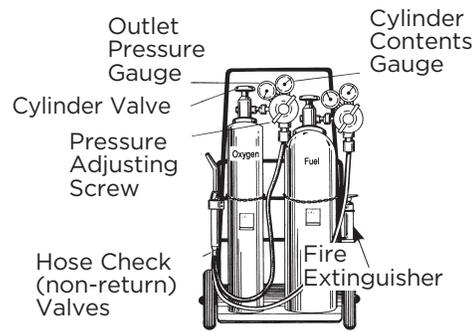

Figure 41-15: Buggy Equipped with a Fire Extinguisher
- Use oxygen and acetylene cylinders in a proper buggy equipped with a fire extinguisher (Figure 41-15). Secure cylinders upright.